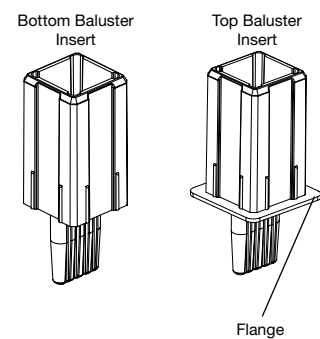

Figure 15
18. Fully engage the top baluster insert (Figure 15) into each baluster slot in the top rail. Ensure that the top baluster insert is oriented the same as the corresponding bottom baluster insert.